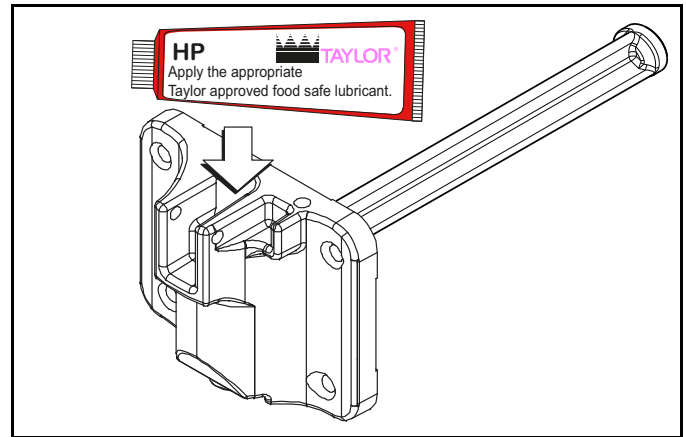

Figure 6-10
4. Lightly lubricate the inside of the top of the freezer door valve cavity. (See Figure 6-10.)